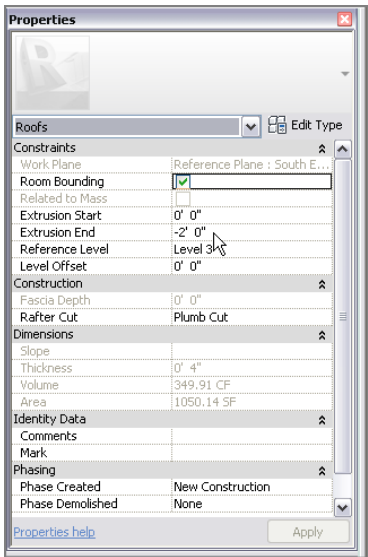

FIGURE 7.54: Setting Extrusion End
- 3. In the Properties dialog box, set Extrusion End to -2’-0” (-600mm), as shown in Figure 7.54.